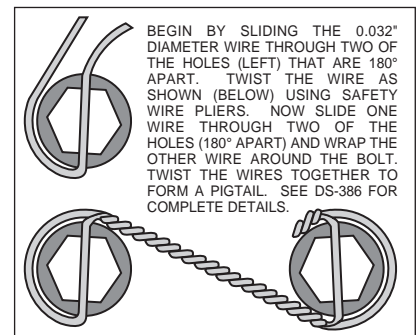
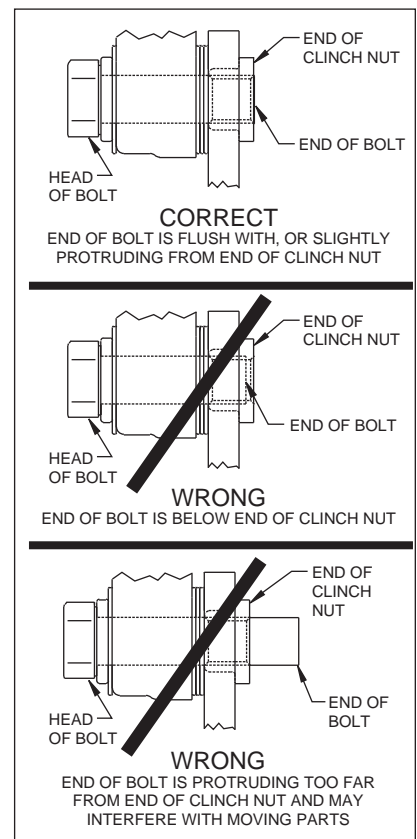

Figure 4. Safety Wire Diagram
Figure 5.
**Assembly Instructions** (numbers in parenthesis refer to the part list/diagram on the preceding page): **CAUTION:** All mounting bolts must fully engage insert nuts. Be sure to check that all bolts are either flush or protruding through flanged side of insert nut after shimming, Figure 5.
- With the slot pointing upward and the mounting ears pointing towards the rear of the vehicle, install the caliper mounting bracket (1) to the housing flange using the stock Original Equipment Manufacturer (OEM) bolts and nuts. Stock OEM hex nuts that retain the bracket (1) should be on the wheel side of the bracket. Apply red *Loctite*® 271 to the stock OEM bolt threads and torque to OEM specifications. **NOTE:** Some brackets act as the bearing retainers, while others help locate the bearing in the axle housing flange. If the stock bearing plates are still on the axle, the caliper mounting brackets (1) should be located between the axle housing flange and the bearing retainer plate. Make sure the heads of the caliper mounting bracket insert nuts are FACING OUTWARD TOWARDS THE WHEEL.
- Bolt the hat (2) to the rotor (3) using washers (4) and bolts (5). Torque bolts (5) to 180 in-lb. Safety wire bolts (5) using standard 0.032 inch diameter stainless steel safety wire as shown in Figure 4. Please refer to Wilwood's data sheet DS-386 (available at [www.wilwood.com/Pdf/DataSheets/ds386.pdf](http://www.wilwood.com/Pdf/DataSheets/ds386.pdf)) for complete safety wire installation instructions.
- Align the correct hole pattern in the hat (2) with the stud pattern on the axle flange. **NOTE:** Some OEM and after market axles come with stud sizes larger than 0.50" diameter. Verify stud size and have a qualified machine shop drill the hats to the correct size. Slide the hat/rotor assembly (2 and 3) over the wheel studs and against the axle flange face.
- NOTE:** Please reference the caution statement at the beginning of the assembly instructions. WITH THE BLEED SCREWS POINTING UP, mount the caliper (6) over the rotor (3) and onto the caliper mounting bracket (1) using washers (7) and mounting bolts (8). View the rotor through the top opening of the caliper. The rotor should be aligned in the center of the caliper. If not, adjust the caliper by using 0.032 inch shim washers (9), placing them between the caliper mounting bracket (1) and the caliper (6). Add as many shim washers (9) as necessary to achieve the correct alignment. **NOTE:** The end of the bolt must be flush with or slightly protruding from the head of the clinch nut. See Figure 5. Place spare shims (9) between washer and caliper mounting ear to achieve the proper mounting fastener configuration. Always use the same amount of shims on both the top and bottom caliper mounting bolts (8). Apply red *Loctite*® 271 to the mounting bolt threads (8), torque bolts to 30 ft-lb. Safety wire the caliper mounting bolts (8).
- Position the Wilwood disc brake pads (10) into the caliper (6) and fasten with cotter pin (11). Steel backing plate side of brake pad should face the caliper pistons.